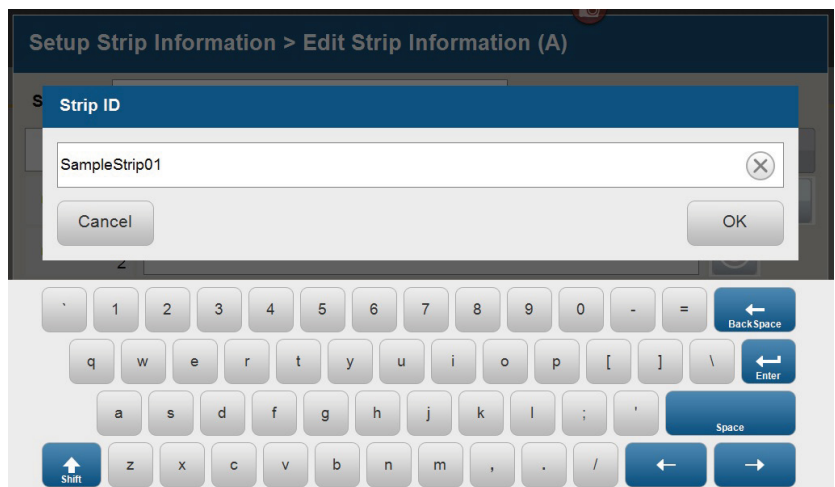

Figure 61. 'Set Strip ID' window.
1. A default Strip ID is displayed. If preferred, enter a Strip ID for the selected lane by selecting the **Strip ID** field. This opens the 'Set Strip ID' window, and a keypad will become active on the touch screen (Figure 61). Alternatively, the Strip ID can be entered using a traditional keyboard if one is connected to the Spectrum Compact CE System. Enter the appropriate Strip ID, and then select **OK** to exit and return to the 'Edit Strip Information' screen. The following table lists rules for characters that can be used for a Strip ID.